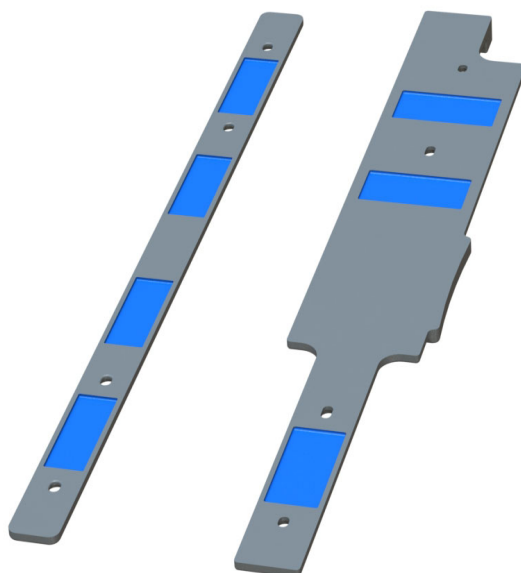
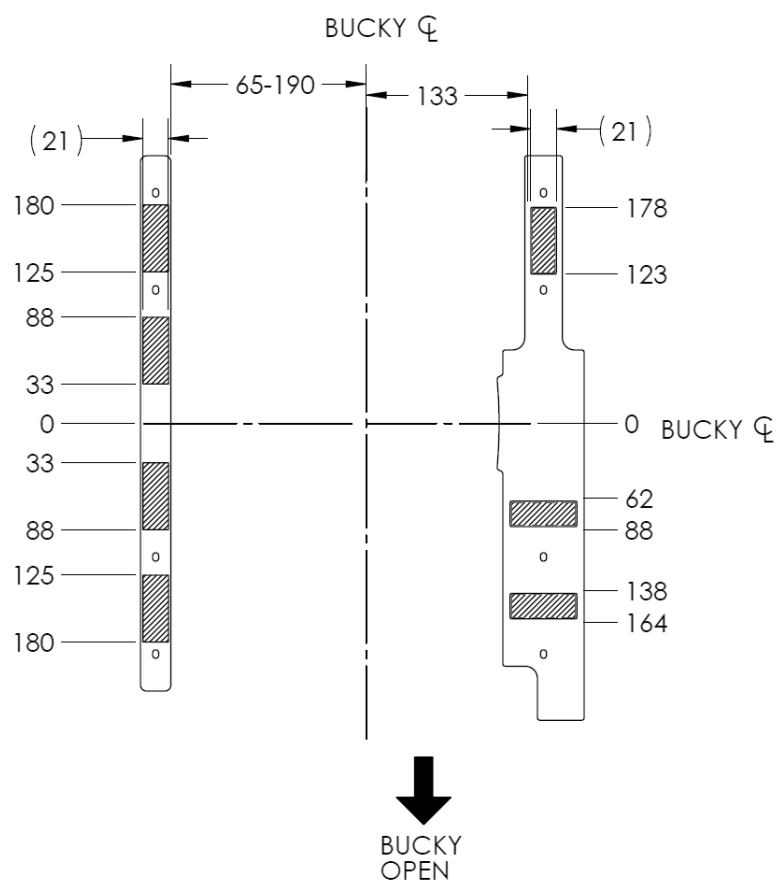

Figure 20 VHB Tape Placement Locations on Varex Inductive Battery Charger
Figure 21 VHB Tape Placement Dimension on Varex Inductive Battery Charger
- 2 Self-tapping screws with washers, machine screws with washers into PEM nuts (installed on the bucky tray), or 1mm (thickness) VHB Tape may be used to attach the Varex Inductive Battery Charger and Detector Support into the bucky tray. Use Figure 19, Figure 20, and Figure 21 for mounting locations.